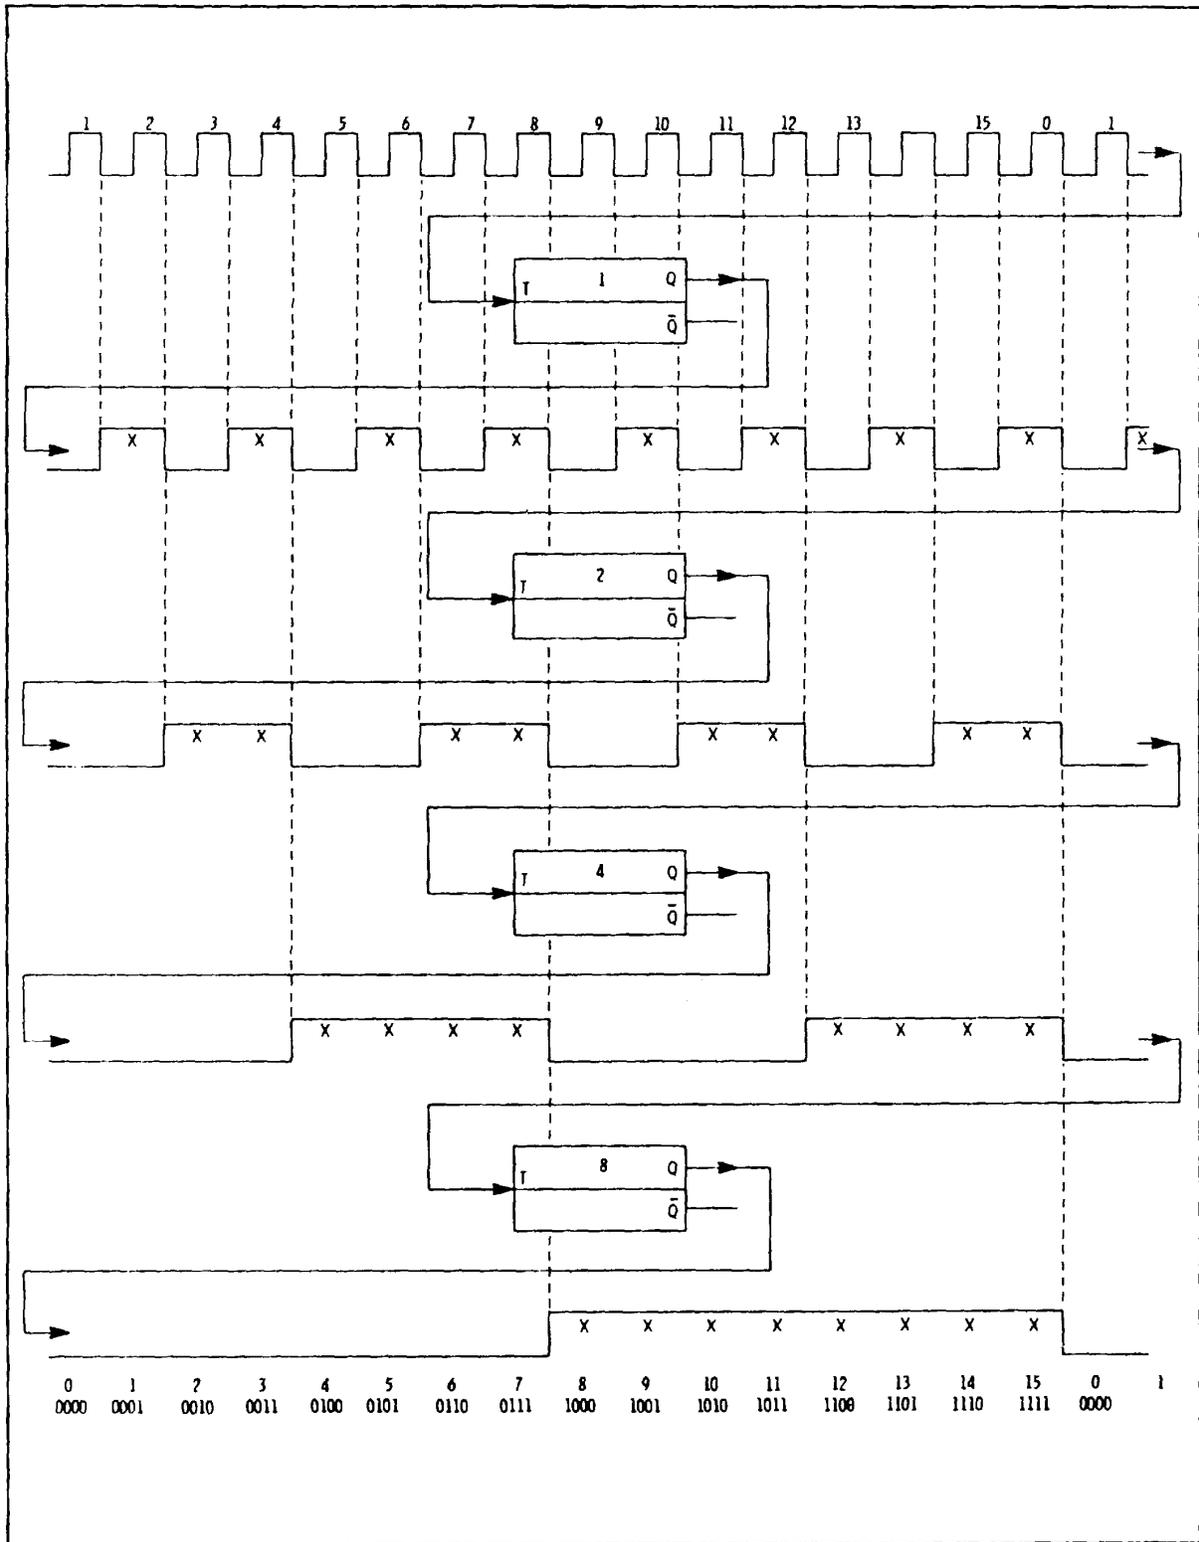
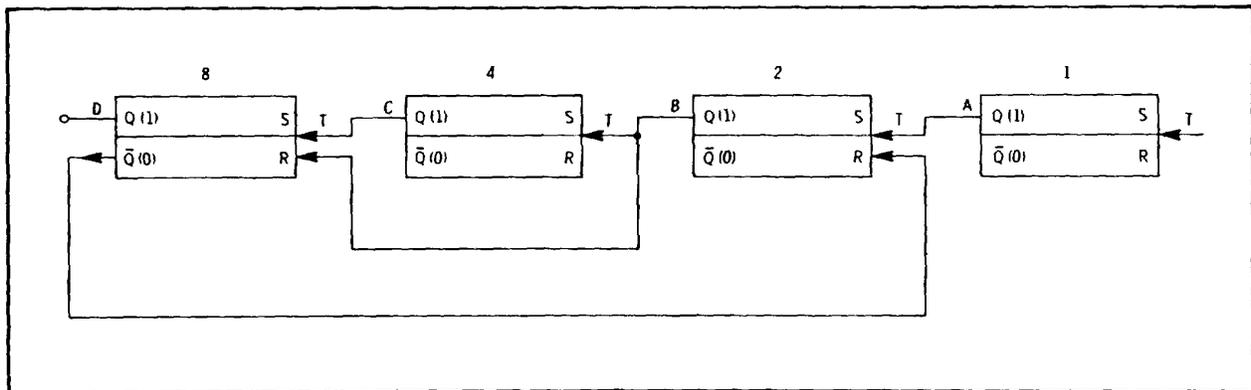

Figure 8-11. 16 Counter Binary Counter Chain
Figure 8-12. 8421 BCD Decade Counter
8-42. In frequency counters the decimal numbers 0 through 9 are displayed on each readout device. For this reason, only binary numbers 0000 through 1001, which correspond to decimal numbers 0 through 9 will be discussed in this text. The only exception to this is the discussion of Figure 8-11 which follows.
8-43. Figure 8-11 illustrates four triggered flip-flops in series, with the Q outputs of the first three driving the trigger inputs of the next flip-flop. Since each flip-flop is triggered only by negative going excursions of the input signal, each provides one cycle of output signal for two cycles of input signal. The flip-flops, then are weighted in ascending powers of two. The first flip-flop has a weighted value of 2^0 (1), the second has a weighted value of 2^1 (2), the third has a weighted value of 2^2 ($2 \times 2 = 4$) and the fourth has a weighted value of 2^3 ($2 \times 2 \times 2 = 8$).
8-44. Assume that initially the flip-flops in Figure 8-11 were all set to 0 (Q low). When seven input cycles have been received the flip-flops have operated as follows; the first has been turned on (Q high) by inputs 1, 3, 5 and 7, and turned off (Q low) by inputs 2, 4 and 6. The second flip-flop has been turned on by the first and third outputs of the first flip-flop (coincident with initial inputs 2 and 6) and turned off by the second output of the first flip-flop (coincident with initial input 4). The third flip-flop has been turned on by the first negative going output of the second flip-flop (coincident with initial input 4). The fourth flip-flop has not been triggered because there has been no negative going output from flip-flop three. The first three flip-flops are now in the 1 state (Q high) and the binary state is 1110.
8-45. As the timing diagram in Figure 8-11 indicates, four flip-flops in this configuration are capable of counting up to 16. Since only the decimal digits 0 through 9 are used in counter circuits, a means must be provided to limit the count to ten. A means must also be provided to reset the flip-flops to zero before beginning a new count. The means by which these facilities are provided are discussed in later paragraphs.
8-47. A Simple 8421 BCD Code Decode Counter. Figure 8-12 illustrates a simplified decade counter using triggered RS flip-flops. This circuit operates like the circuit shown in Figure 8-11 up through decimal count 9 (binary 1001).